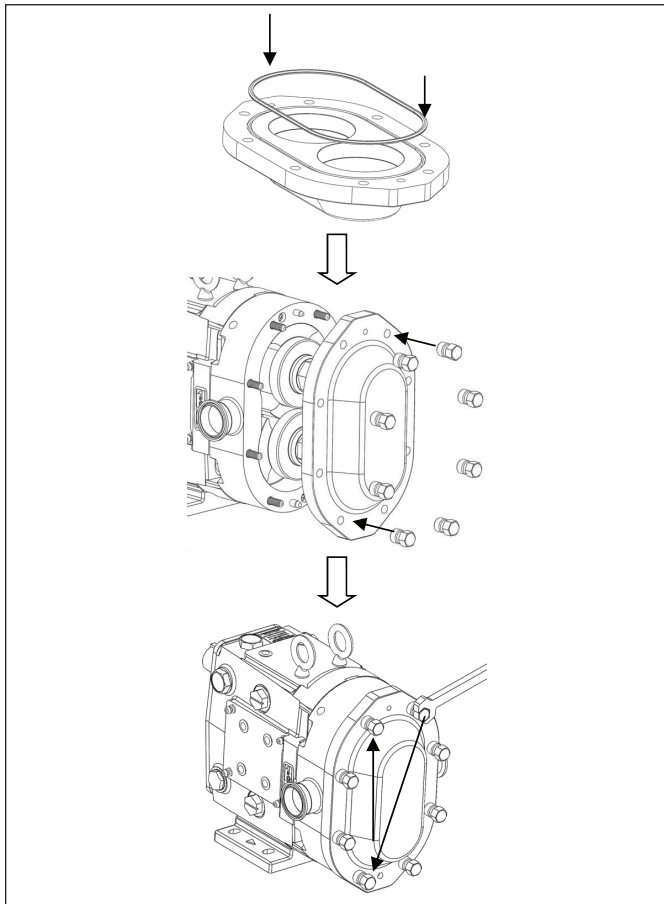

Figure 59. Installing Cover Assembly
3. Install the new cover o-ring and slide the cover over the studs making sure that the dowels in the body are aligned with the correct dowel holes in the cover (*Figure 59*). Visually inspect to ensure that the cover o-ring remained in place. Turn the cover nuts (clockwise) by hand and fully tighten them by using the appropriate wrench. Tighten the rotor nuts in an opposing manner as seen in *Figure 59*, so that the cover is evenly tightened to the body.